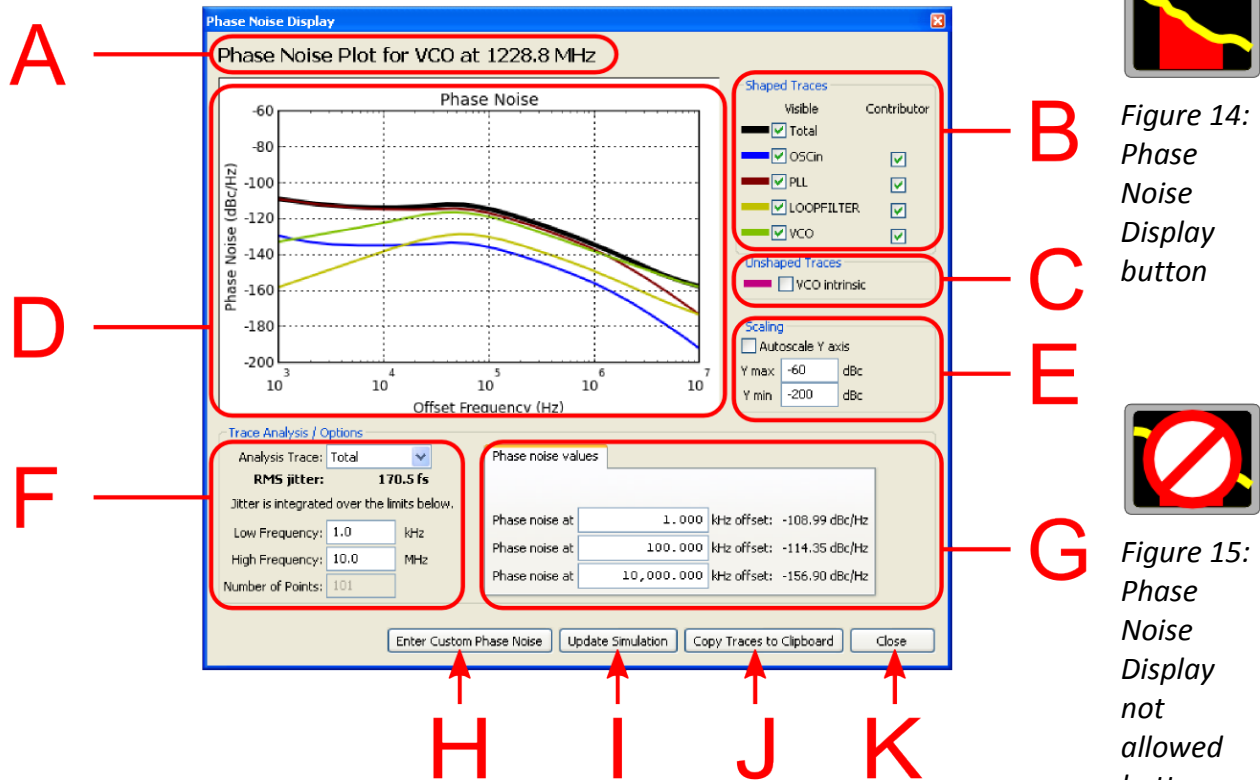

Figure 13: Phase Noise Display Screen
The title of the screen (A), Figure 13, shows the name of the current block on which the phase noise analysis was activated and the frequency that block is operating at.
The plotting window (D), Figure 13, shows the phase noise plot.